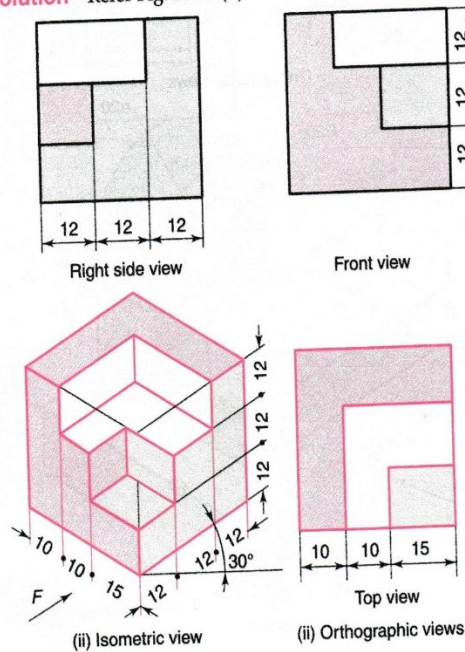

Fig. 13.51 Stepped block
Orthographic views of a block are shown in Fig. 13.51 (i). Prepare a proportionate isometric drawing by free hand. Need not dimension.
**Solution** Refer Fig. 13.51 (ii)